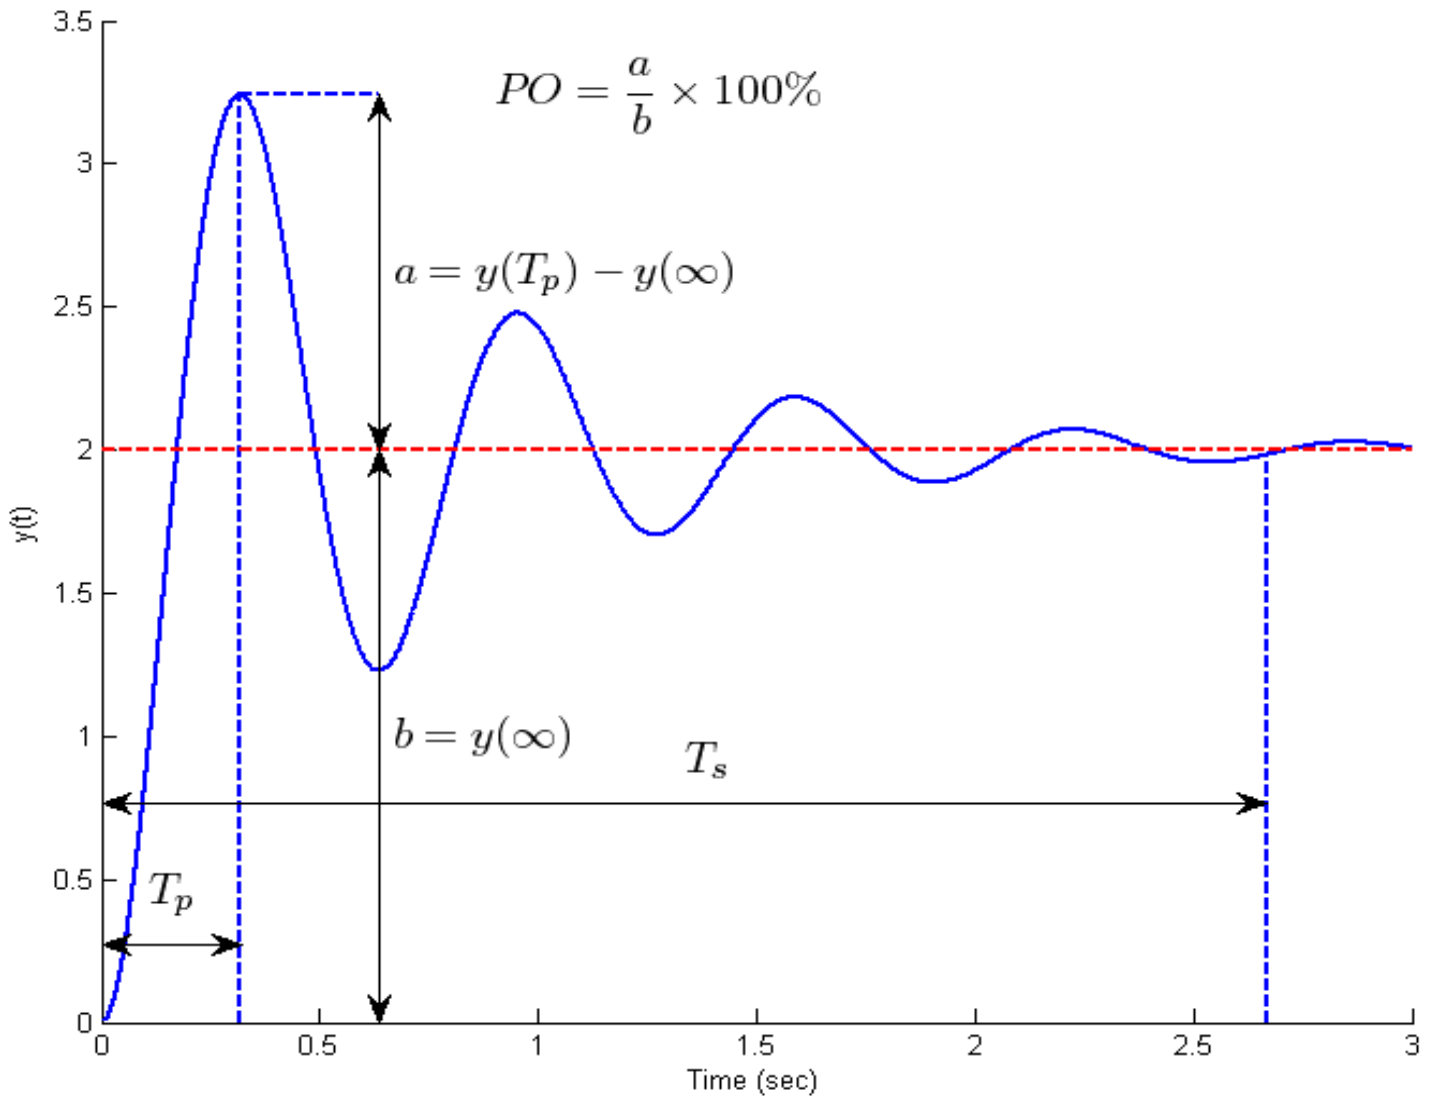

Figure 6. Important characteristics of the step response of an underdamped second order system.
In this part, we will look at the response of a second order circuit and how changing the damping ratio changes the characteristic of the output. The Figure 6 shows some of the important characteristics we usually measure for the step response for an underdamped second order systems. These include the Percent Overshoot (PO), the steady state value ($y(\infty)$), the Time to Peak (T_p), and the Settling Time (T_s). In this part of the lab we are mostly interested in the percent overshoot.